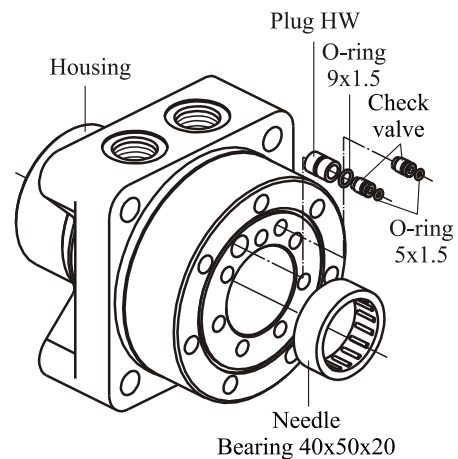

Fig.12
12. Press needle bearing 40x50x20 in the housing (see Fig.12).
13. Lubricate and install O-ring 9x1,5 on plug HW. Mount the plug in the housing. Mount check valves (2 psc.) in the housing as shown on fig.12.